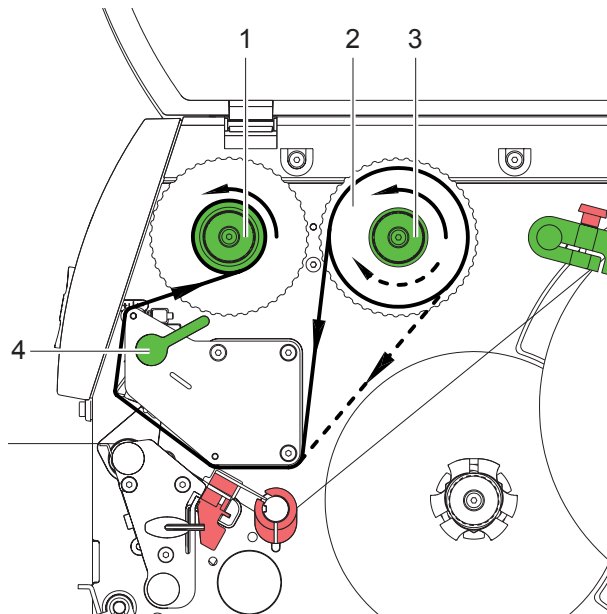

Fig. 15 Feed path of the transfer ribbon
2. Turn lever (4) counterclockwise to lift the printhead.
3. Slide transfer ribbon roll (2) onto the ribbon supply hub (3) until it stops and so that the color coating of the ribbon faces downward when being unwound. No rotation direction is specified for the ribbon supply hub (3).
4. Hold transfer ribbon roll (2) firmly and turn knob on ribbon supply hub (3) counterclockwise until the transfer ribbon roll is secured.
5. Slide suitable transfer ribbon core onto the transfer ribbon take-up hub (1) and secure it in the same way.
6. Guide transfer ribbon through the print unit as shown in Fig. 15.
7. Secure starting end of transfer ribbon to the transfer ribbon core (1) with adhesive tape. Ensure counterclockwise rotation direction of the transfer ribbon take-up hub here.
8. Turn transfer ribbon take-up hub (1) counterclockwise to smooth out the feed path of the transfer ribbon.
9. Turn lever (4) clockwise to lock the printhead.